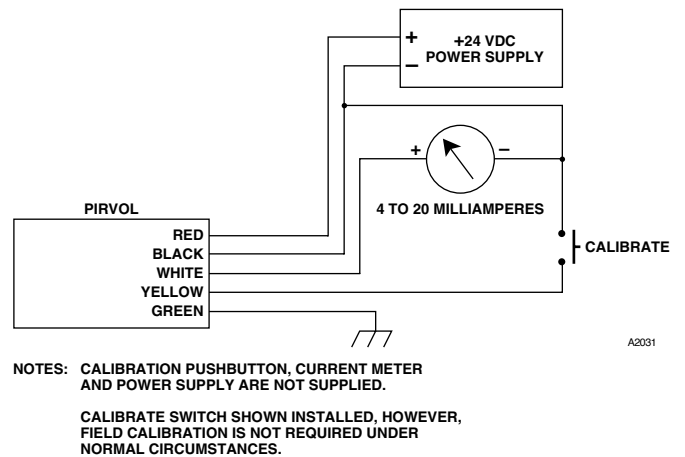
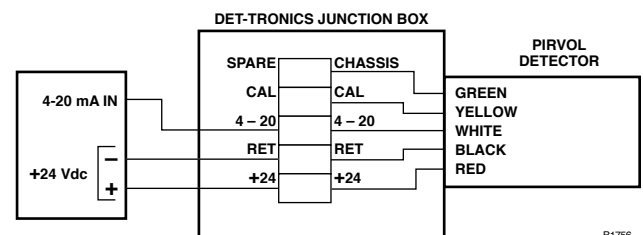
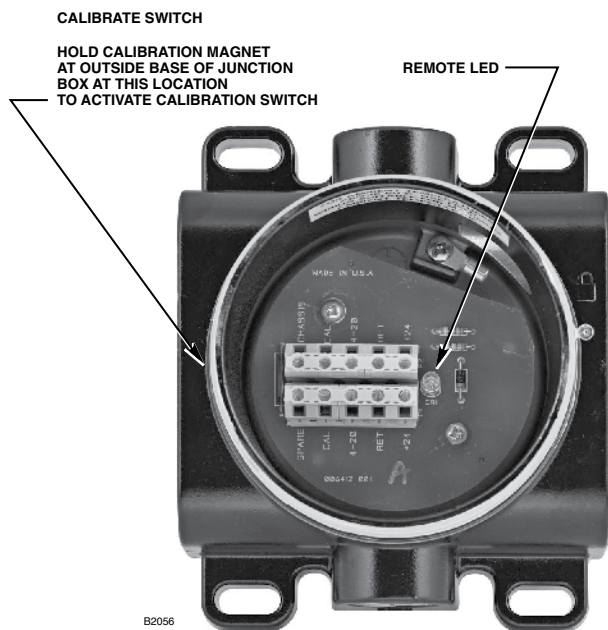

Figure 8—Typical PIRVOL Wiring, Stand Alone Configuration
Figure 9—Typical PIRVOL Wiring, with Det-Tronics Junction Box
Figure 10—Junction Box Terminals and Calibration Switch
3. Figure 8 shows typical wiring for stand alone operation. Figure 9 shows typical wiring for PIRVOL with Det-Tronics supplied junction box. Figure 10 shows the wiring terminals located inside the junction box. The PIRVOL wiring color code is:
The calibration sequence is initiated by momentarily connecting the calibration lead to the negative lead (common) of the power supply using either the Cal Magnet or an external switch. If the Det-Tronics junction box with magnetic Cal Switch is being used, this is accomplished by holding the Cal Magnet near the side of the junction box for one second. The location of the Cal Switch is shown in Figure 10. An alternate way of accomplishing this is to install a pushbutton switch between the yellow lead and the power supply common.